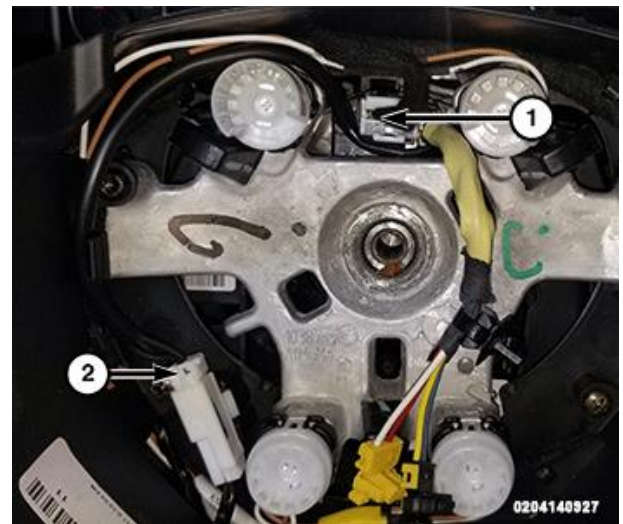

Figure 7 – Wire Harness Connectors
16. Disconnect the wire harness connectors (1) and (2) (Figure 7).
14. Connect the wire harness connectors (1) and (2) (Figure 7).